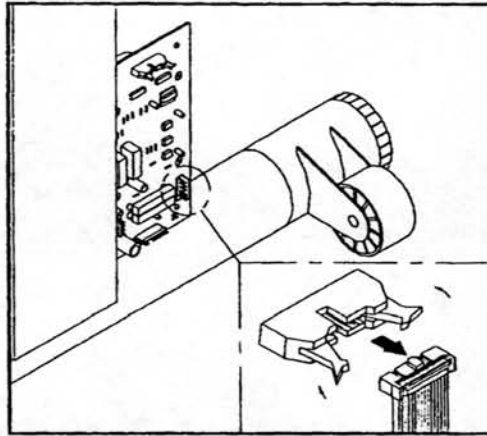

Fig.11-1
2. Unplug the connector of RIBBON CABLE from the DRIVE BOARD (see fig.11-1).